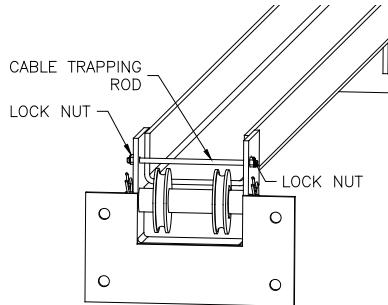

Fig 3-Cable Trapping
- 15) At the upper beam sheave locations disassemble and reassemble the cable trapping rod to install the cable onto the sheave, See **Fig 3**. To install the cable bottom sheave will need to be removed then reassembled.